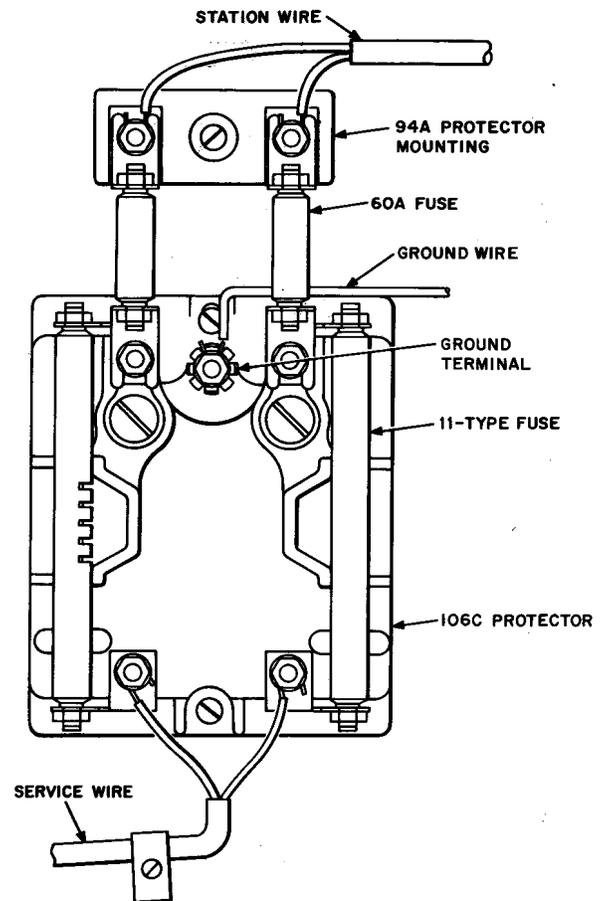
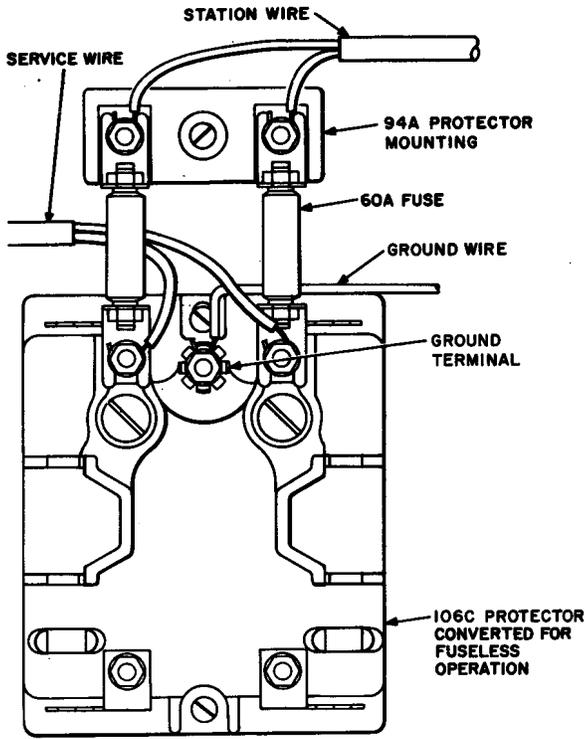

Fig. 90—60A Fuses Used With 94A Protector Mounting and 106C Protector
Fig. 91—60A Fuses Used With 94A Protector Mounting and Converted 106C Protector
11.10 A fused protector equipped with 60A fuses is shown in Fig. 90. A converted protector equipped with 60A fuses is shown in Fig. 91.